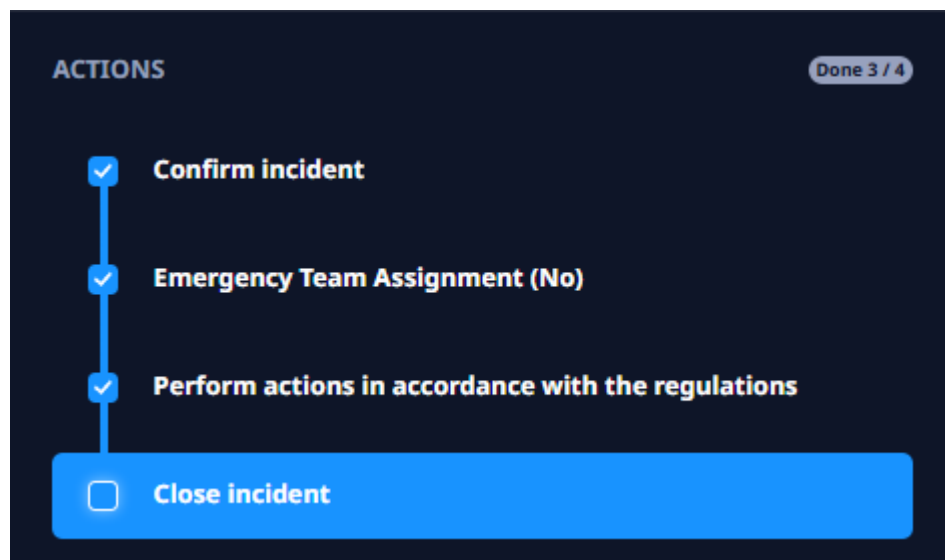

Figure 19. Example of incident processing actions
4. Perform the actions according to the regulations. An example of possible actions is shown in Figure 19.